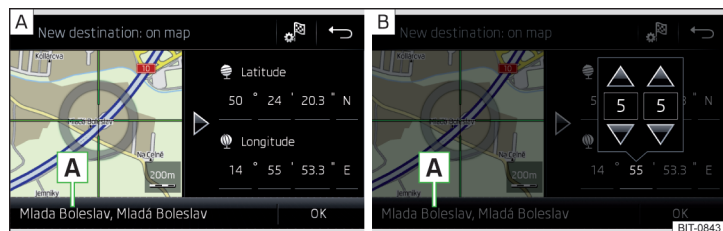

Fig. 230 Enter destination: via the map point / using the GPS coordinates
» Fig. 230 - .
- › Tap in the values of the GPS coordinates one at a time and adjust » Fig. 230 - .
If information is available about the point entered in the navigation data, then these will be displayed instead of the GPS coordinates (e.g. address  » Fig. 230).